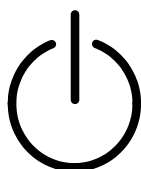

Figure 2. Stand-by symbol on the power supply unit
- Figure 2. Stand-by symbol on the power supply unit **13**